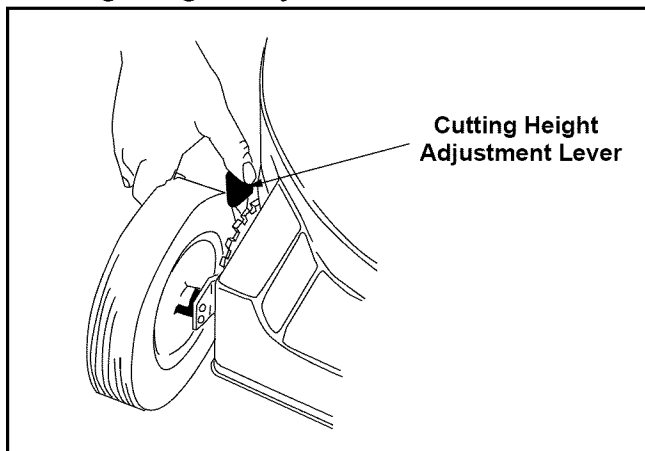

Figure 10
- To raise the height, push the lever towards the front of the mower on both front wheels, and push the lever toward the back of the mower on the rear wheels. Refer to Figure 10.